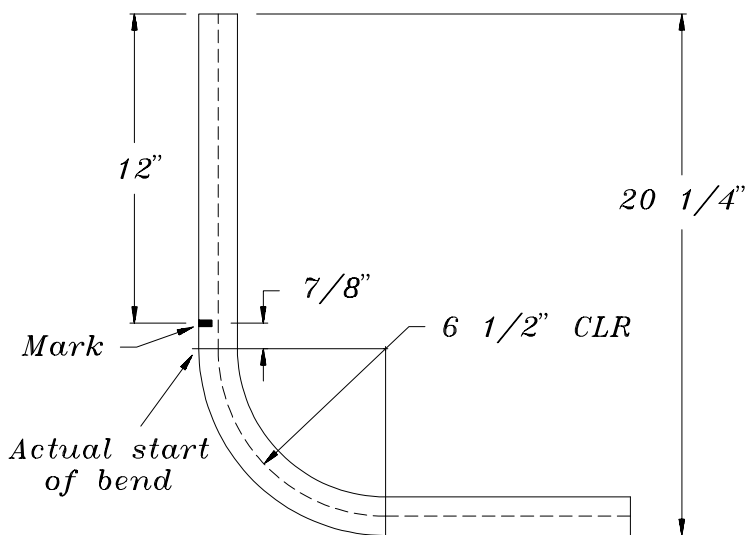

Figure 8
- D) With the tube bent correctly to 90 degrees locate the actual start of the bend. To do this, measure from the end of the tube to the far end of the 90 degree bend. In the example in figure 8 this came out at 20 1/4". Subtract 6 1/2" for the centerline radius (CLR) of the Bending Die, another 3/4" for the radius of the tubing not seated in the die, and 1/8" for springback. (Substitute the CLR and tube radius to match your die set). The 1/8" figure for springback is an approximation, not an exact figure. However it is usually very close to the real thing and may be used without worry to determine the actual starting location of the bend. So: